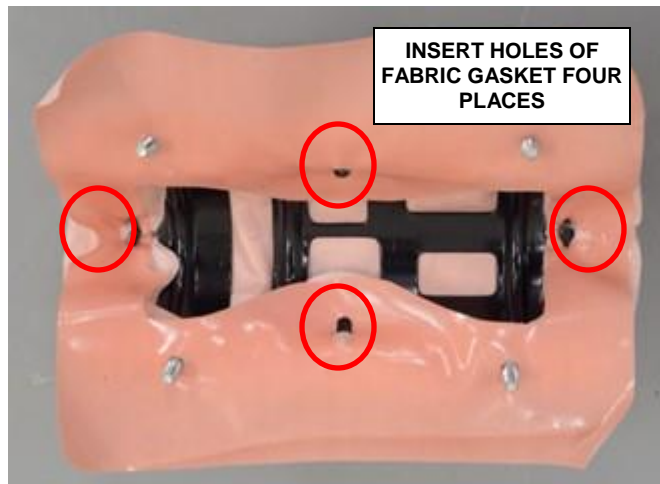

Figure 76 – Fabric Gasket
- j. With the help of a trim tool insert the holes of fabric gasket, four places (Figure 76).